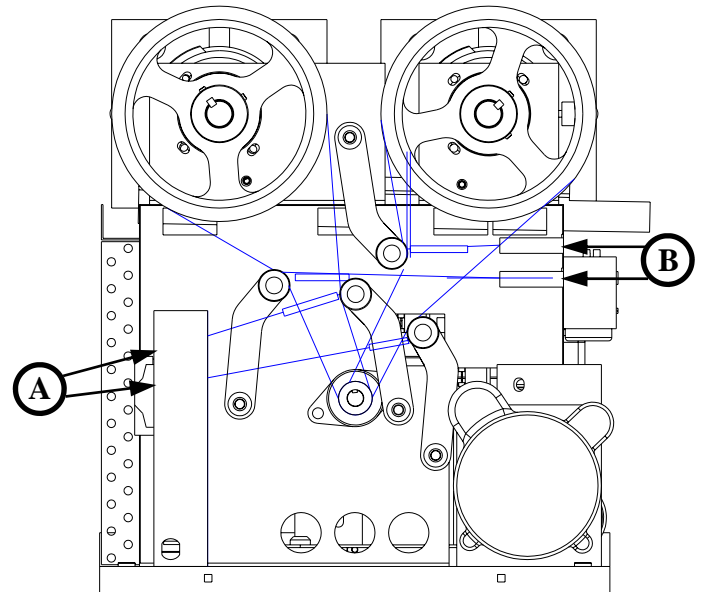

Fig. 18
The mechanical control system (Fig. 18) is a very simple method of controlling the consistency of the finished product. The machine operates without a temperature control. Refrigeration is controlled by measuring the torque on the dasher motor and the consistency of the product. The tension of a spring against the torque idler activates a limit switch which opens a refrigeration solenoid to cool the barrel.
2. Using a regular screwdriver, turn the mechanical consistency (torque adjustment) screw "A" in Fig 19 clockwise to make the product harder and counterclockwise to make the product softer. Do not adjust more than one turn each time. Do not attempt to adjust the belt idler screws "B" in Fig. 18 on the left side of the machine as viewed from the front of the machine. These screws are marked "**DO NOT ADJUST**".